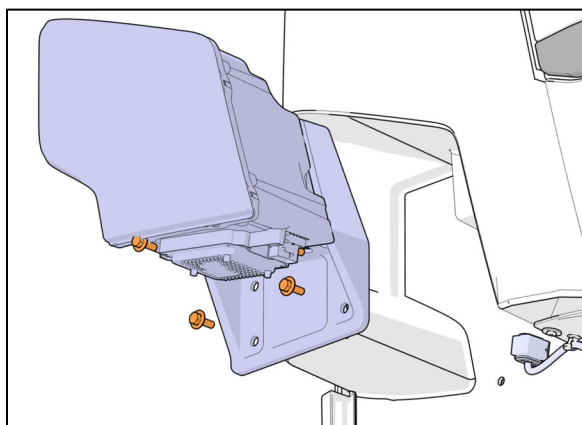

FIGURE 94
3. Unplug the connector (Figure 94).